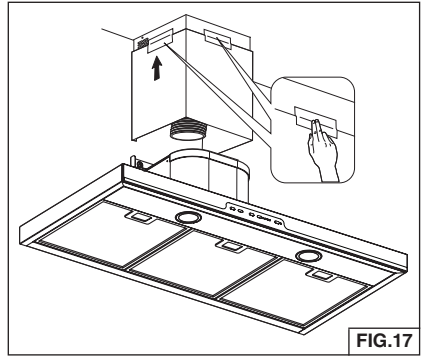

FIG.17
5. Temporarily secure the upper and lower flue together with duct tape as shown. Fig. 17.